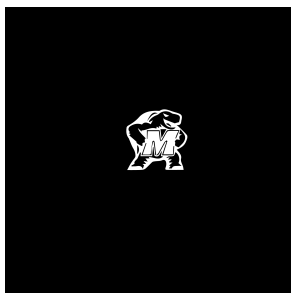

Fig. 1
4. It would look something like (fig. 1)